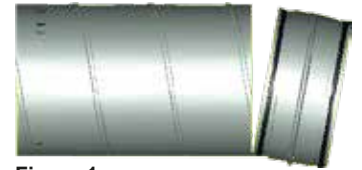

Figure 1
1. Start by inserting the gasketed end of the fitting into the spiral pipe (figure 1).